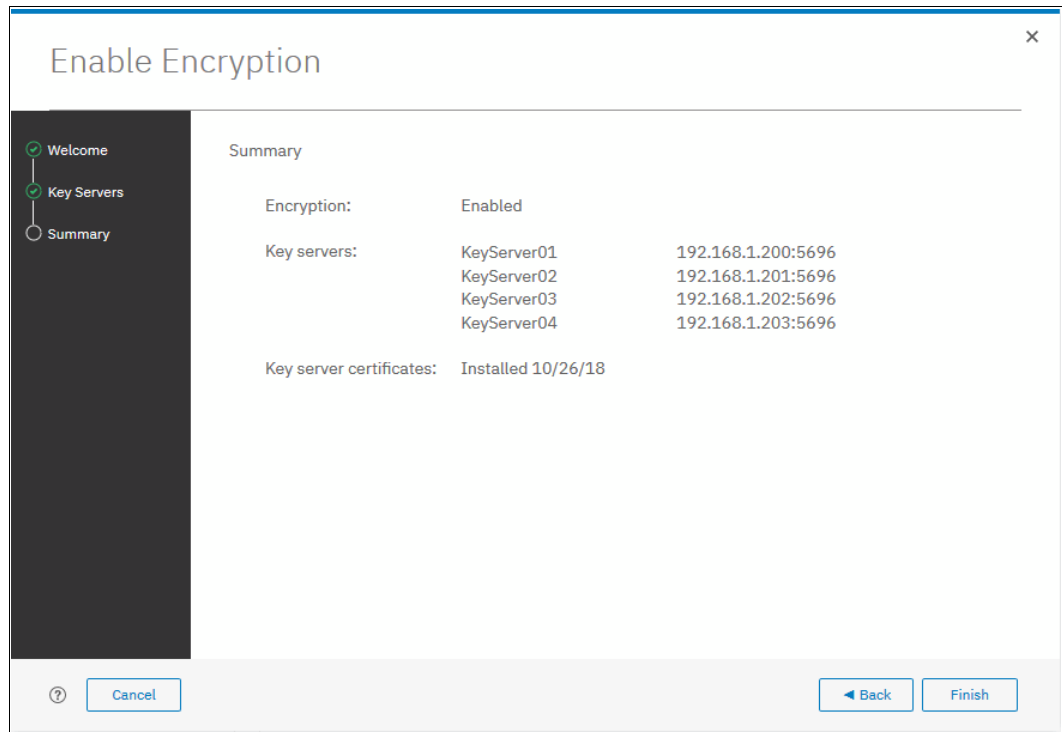

Figure 13-38 Finish enabling encryption using SKLM key servers
10. The key server configuration is shown in the Summary tab, as shown in Figure 13-38. Click **Finish** to create the key server object and finalize the encryption enablement.